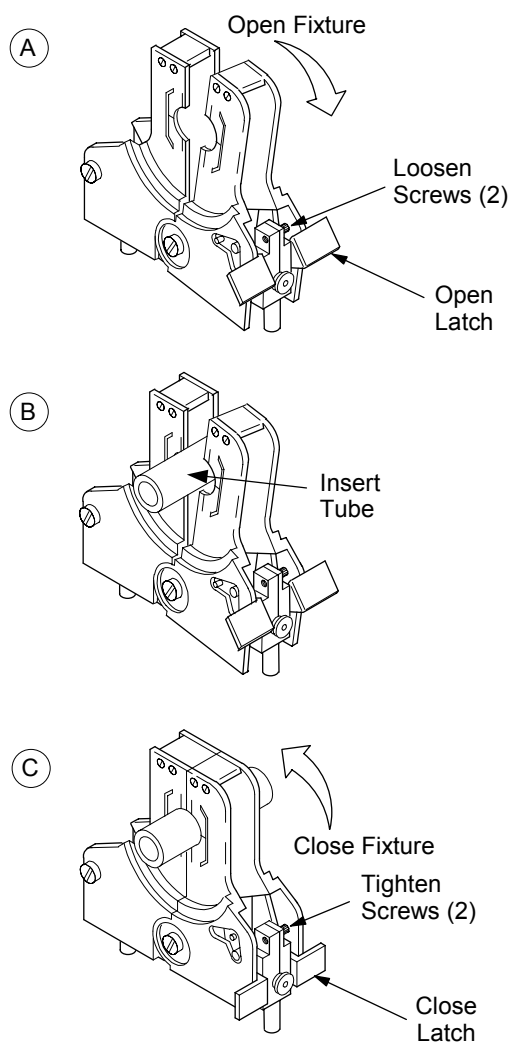

Figure 18 Aligning the Tubing in the Series 8 Micro Weld Head Fixture
1. Using the micro fixture tool, place the latch in the open position then open the fixture. See Figure 18(A).
2. Loosen the two alignment screws. See Figure 18(A).
3. Insert the tubing. See Figure 18(B).
4. Close the fixture and latch and then align the tubing. See Figure 18(C).
5. Tighten the two alignment screws. See Figure 18(C).